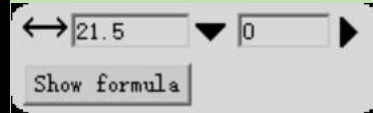

Figure4-44
3. Input the length data from a point to a line. ( Figure4-44 ) 。